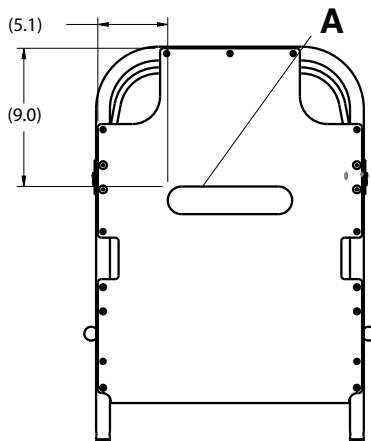

Figure 1 – Apply Velcro to the fowler
6. Remove the backing on the fowler **Velcro** (A) and apply the **Velcro** to the surface of the fowler (Figure 1).